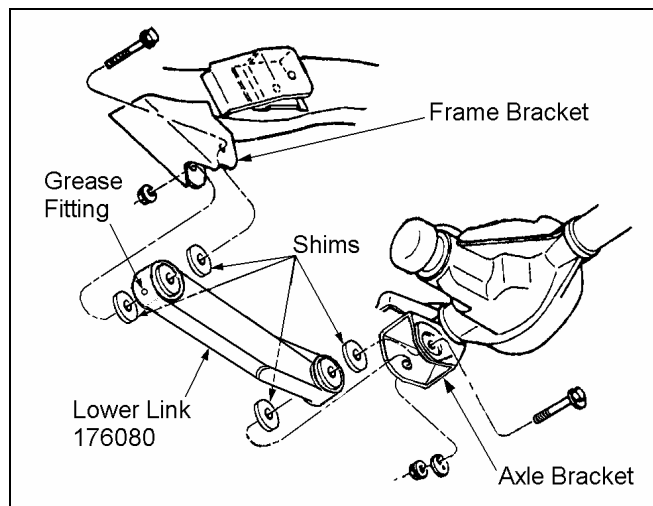

Figure 2 (front)
- 5) For the front suspension, remove the nut, cam, and cam bolt from the axle bracket. Remove the nut and bolt from the frame bracket. Remove the lower link. See Figure 2.
- 1) Position the lower link in the axle bracket and the frame rail mount. Insert shim washers (7852) and loosely install the mounting bolts and nuts. Refer back to figures 2 or 3.